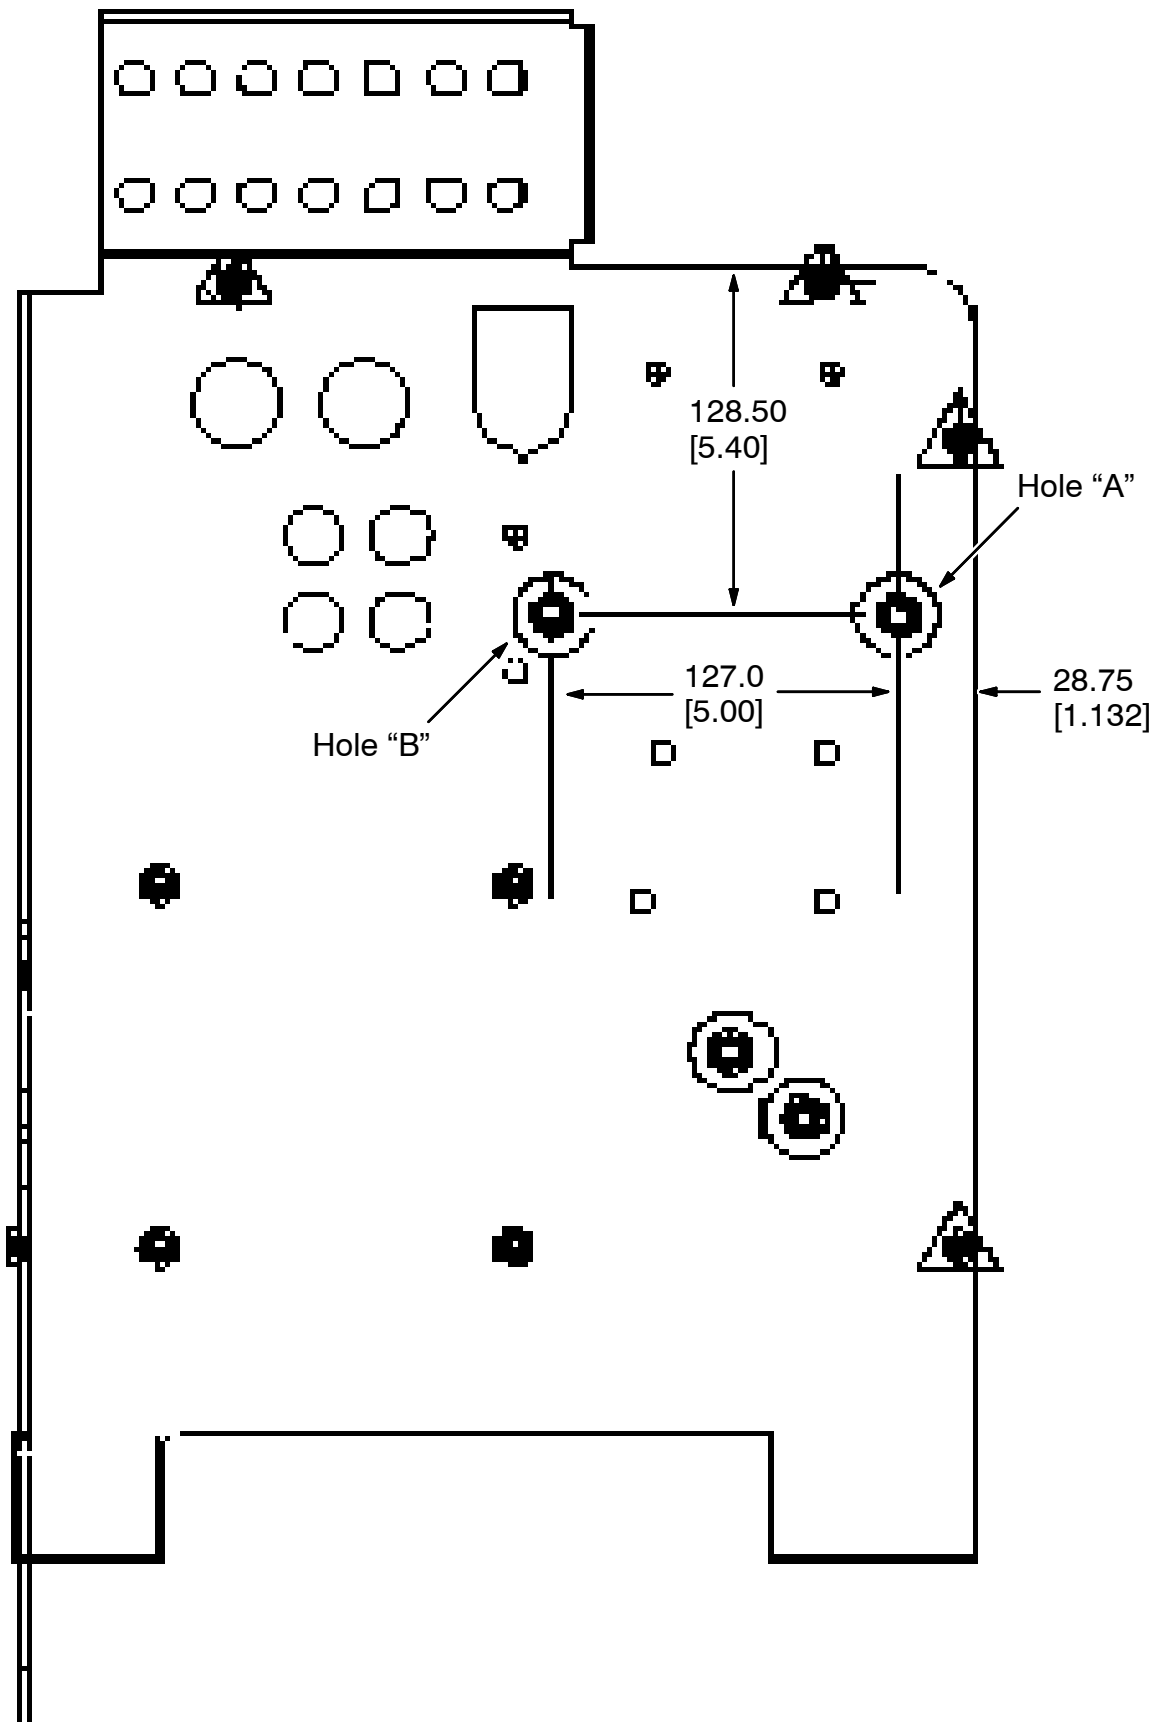

FIG. 7 - Control Box Rework
(Refer to FIG. 7)
7. Using mounting bracket 1007344 as a template, and the dimensions for hole "B" in FIG 7, mark and drill a small locating hole using a 1/8 [0.125 mm] in drill bit. (Refer to FIG. 7)